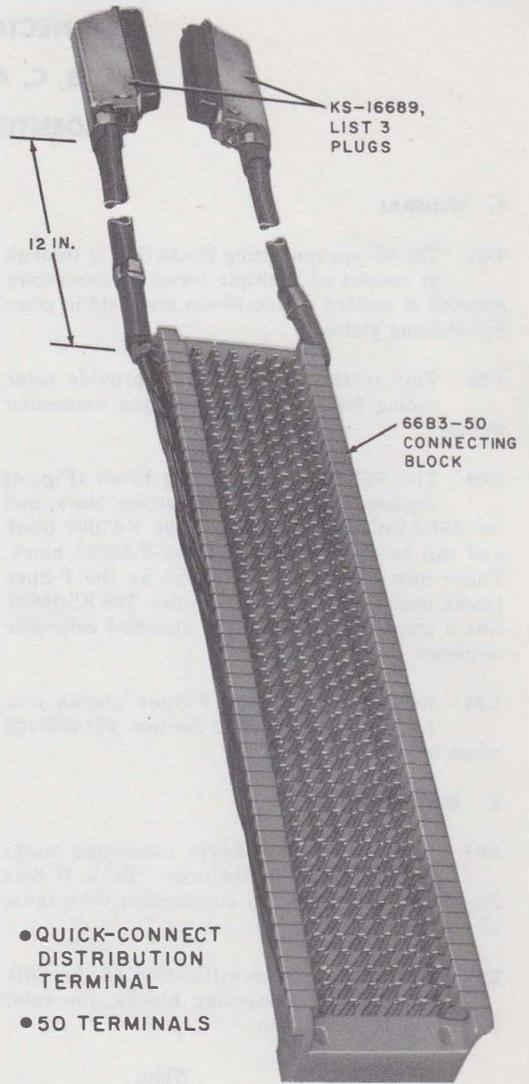
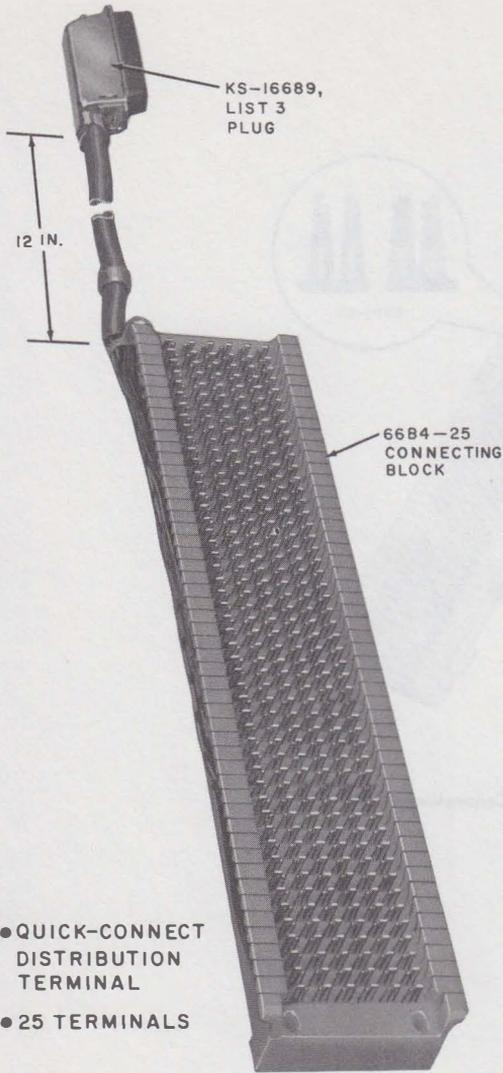

Fig. 4—66B3-50C Connecting Block
Fig. 5—66B4-25C Connecting Block
1.03 The 66B3-50C connecting block (Fig. 4) replaces the F-57001 connecting block, and the 66B4-25C (Fig. 5) replaces the F-57000 block and can be used in place of the F-56999 block. These new blocks are the same as the F-Spec blocks, except for 12-inch cable stubs. The KS-16689, List 3 plugs are terminated in standard color-code sequence.